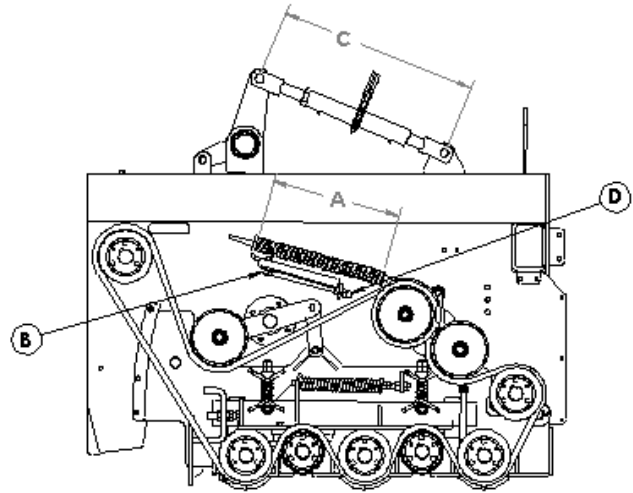

Figure 7-30: Grabroll Bed Angle and Rear Drive Belt Adjustment
2. Adjust dimension (C), shown in Figure 7-30.